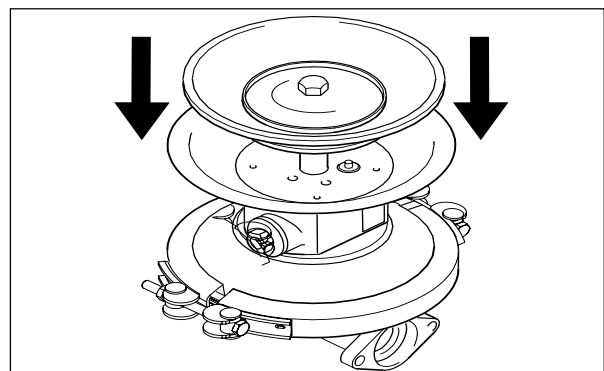
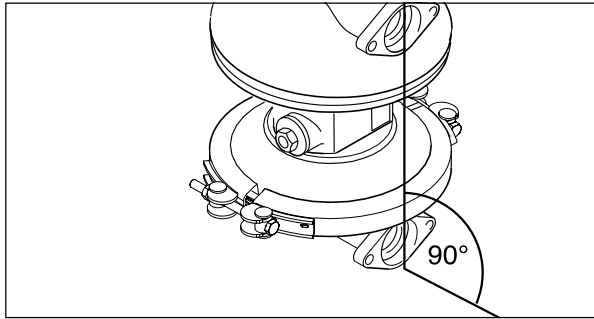

Fig. 16: Assembly of second pump chamber
Fig. 17: Alignment of pump chambers
- Assembly of the pump chamber: Assembly of diaphragm, fixation by fastening the outer diaphragm plate acc. to chapter 9.4 "Tightening torques". The pump chambers must generally be assembled with the diaphragm in suction position (Press diaphragm plate into air chamber) (Fig. 16). Fasten clamp band or mounting flange. Assemble the second diaphragm in the same way. The flange face of the pump housing must be in line (Fig. 17).